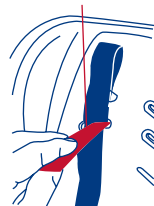

Fig. 31-1
6. Using the included Belt Threading Tool, insert the Harness Straps through the Slots selected in step 2 above, in the seat pad and the seat shell, respectively. (Fig. 31-1)